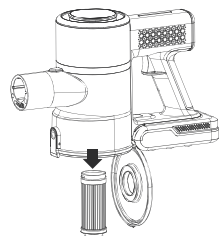

Fig 2.
3. Pull inlet HEPA filter downwards to remove the filter and put it back at counter way after cleaning, Fig.2.